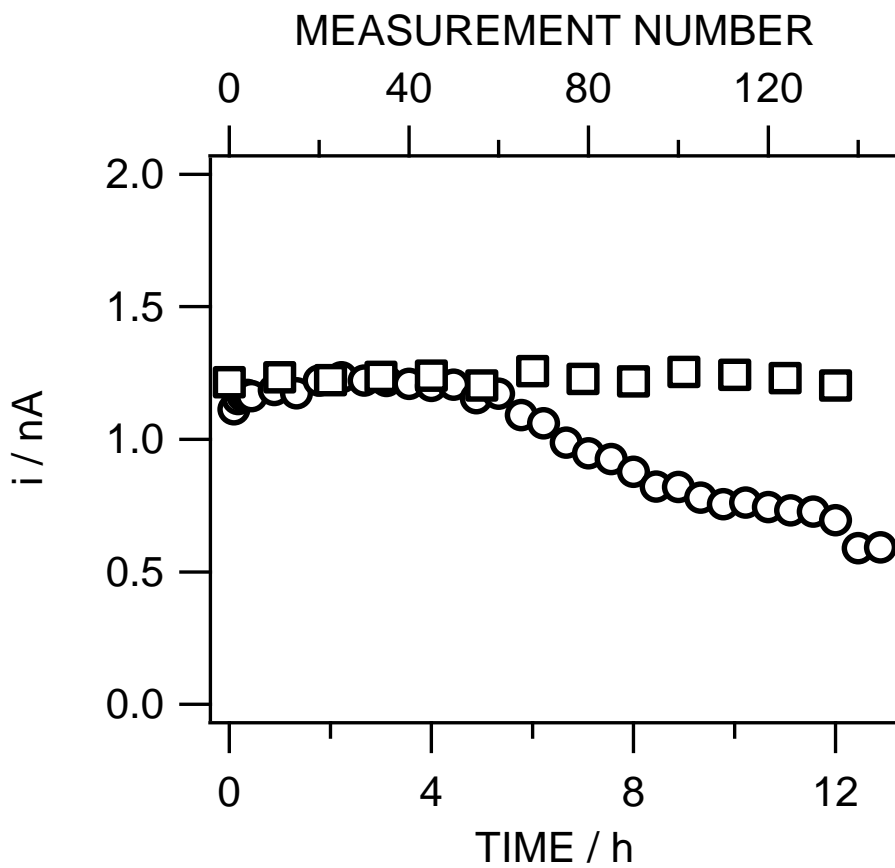

Fig. S4
**Fig. S4.** Lifetime comparison for consecutives replicates between a solid gold microelectrode (circle) and the Au-IrM (square) for a concentration of 25 nM and 50 nM As (III) respectively. Sample and SWASV conditions as in Fig. 4, except  $t_{\text{precleaning}} = 2$  min for the solid gold microelectrode.